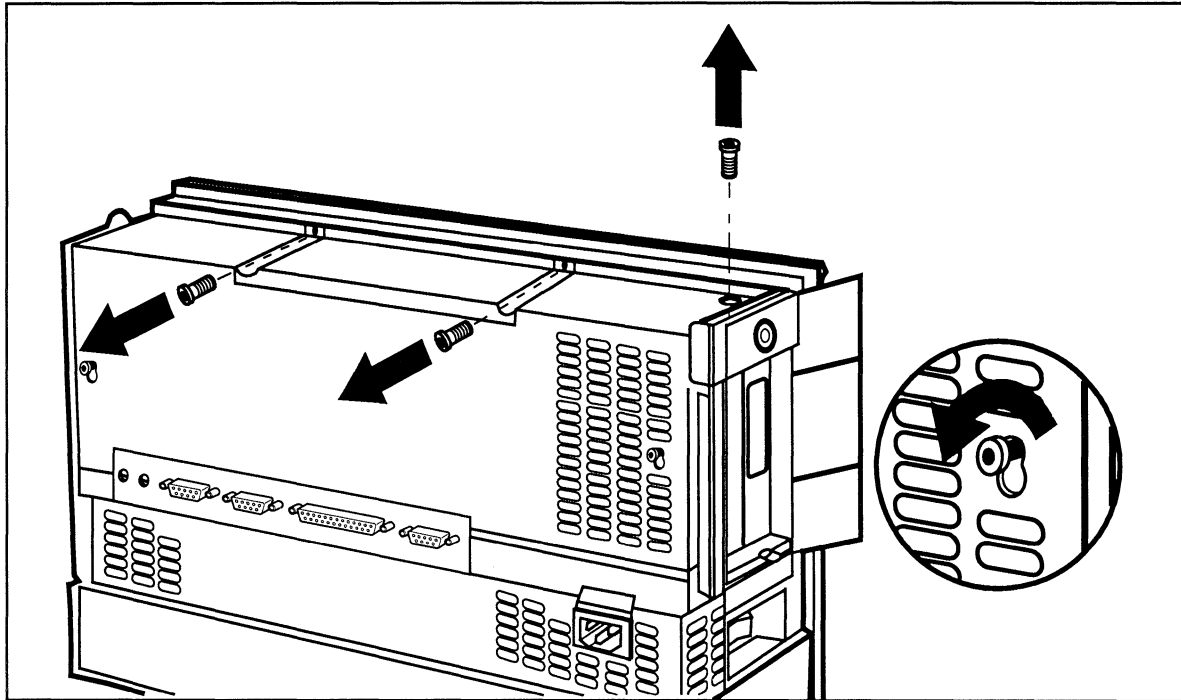

Figure 4–24. Removing the options cover top screws and loosening the rear screws.
6. Loosen the two Torx T-15 screws securing the back of the options cover to the unit. See the detail view at the right in Figure 4–24 to see what these screws look like.